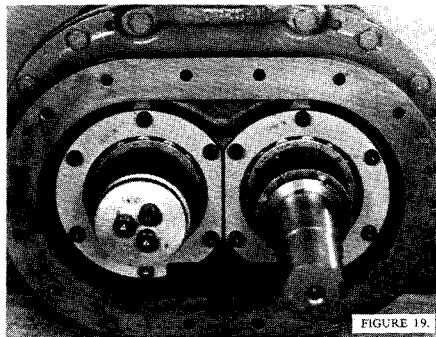

FIGURE 19.
- Install bearing outer race retainers using Nylok type screws, Figure 19. Inspect shaft for burrs. Oil bearings with oil to be used in unit. Install bearing spacers (no keys used in shaft extension) with beveled end towards bearings. Install nut and lock washer on main rotor, and the retainer plate and three (3) Nylok screws on secondary rotor and pull up tight, Figure 19. Bend ear of washer into slot of nut.
- Be sure face of nut is square and flat so seal spacer ring will run true. Slide seal spacer ring over shaft with counter-bored side towards nut. Install seal with care so teflon I.D. and carbon face is not damaged. Tighten three (3) Allen screws in seal. Be sure seal is positioned solidly against spacer.